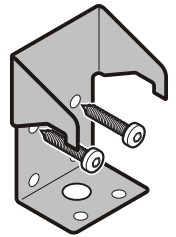

Figure 8
To ensure a secure mounting of the brackets, use any possible mounting option as shown in Figures 8 - 11.
*To ensure a secure mounting of the brackets use any possible mounting option as shown in **Figures 8 - 11**.*
Mounting with wall plugs at concrete walls (**Figure 8**).